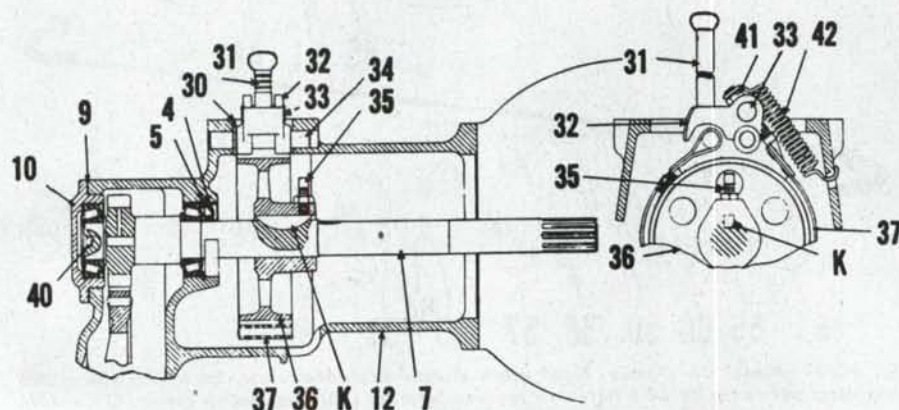

Fig. AC134—Models B, and C brake band and brake drum installation in the tractor final drive unit. Brake drum (36) is located on the bull pinion shaft.
To remove brake band assembly (37—Fig. AC134), remove fender and brake compartment cover. Remove brake pin retainer (30), spring (42), adjusting nut (41), toggle (32), and toggle pins (33). Pull brake band out, bolt end first. To remove a brake drum, it is necessary to first remove the appropriate final drive unit as described in paragraph 269 after which the drum can be pulled from the bull pinion shaft.